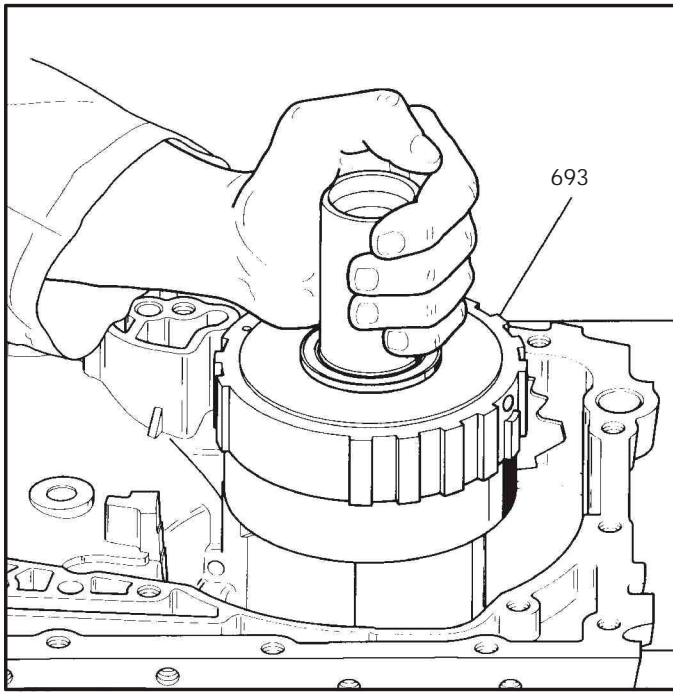

Figure 146
1. Rotate transaxle case so that case cover surface is facing up as shown in Figure 146.
2. Install the final drive ring gear thrust washer on final drive ring gear and retain with petrolatum, as shown in Figure 146.
3. Install the final drive ring gear into the lugs in transaxle case (See Figure 146).